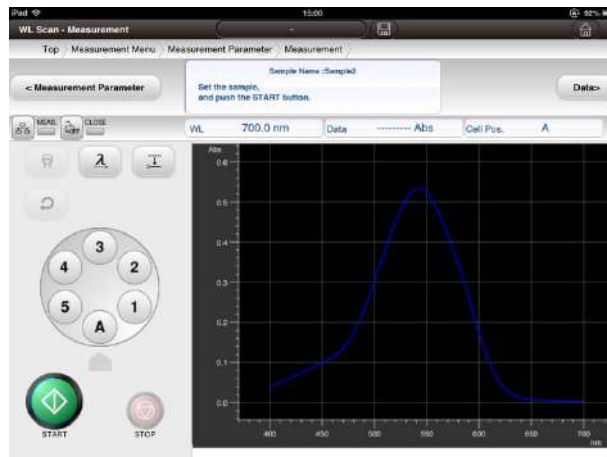

Fig. 4-134 Window After Sample Measurement
- (2) When measurement is completed, the window as in Fig. 4-134 will be shown.